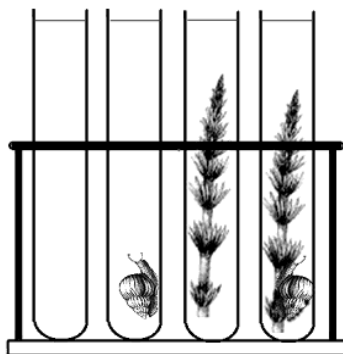

Figure 4
10. Place one sprig of elodea in test tubes 3, 4, 7, and 8. Each set of four tubes should appear similar to those in Figure 4.